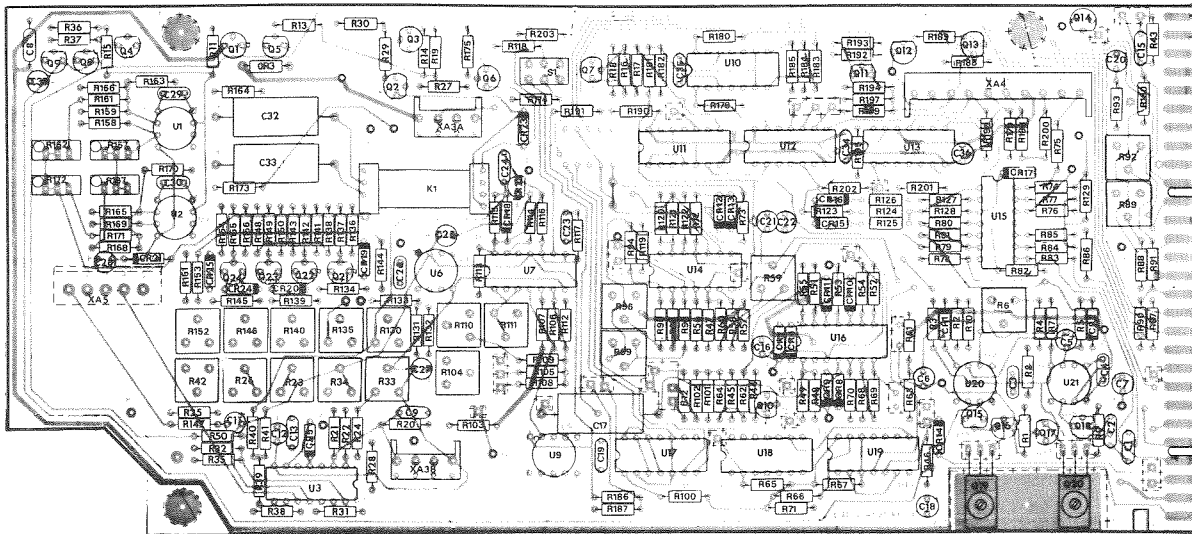

Figure 4-4. Sweep Generator PC Assembly
5. On 640G, connect DVM between pins 13A and 13B (Figure 4-4).
1. Referring to Figure 4-4, connect DVM to TP3.
4-3.3 Frequency Instruction Adjustments (Figure 4-4)
4-3.4 Oscillator Voltage Adjustments (Figure 4-4)
6. Adjust +10 dBm Adjust R33 (Figure 4-4) until the lowest point of the RF trace is on top of the retrace line.
- e. On the 640G, adjust 0 dBm Adjust R34 until the lowest point of the RF trace is on top of the retrace line (Figure 4-4).
1. Adjust ALC Gain R23 and ALC Response R26 (Figure 4-4) to obtain a square wave response with the following characteristics: 20 μ sec rise time, <10% overshoot of the square wave amplitude, and no ringing.